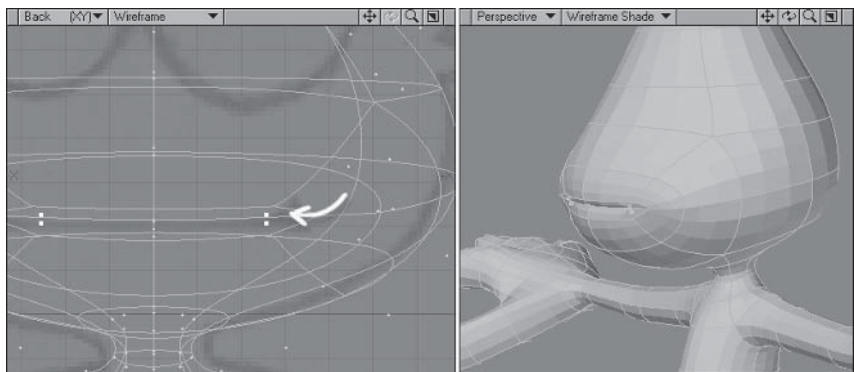

Figure 3.3-8. The mouth is starting to take shape.
5. **Super Shift** and move back again. From the Right view, **Drag** the top points up and the bottom points down, and in the Back view, **Stretch** horizontally. Check against Figure 3.3-8 and tweak if necessary.